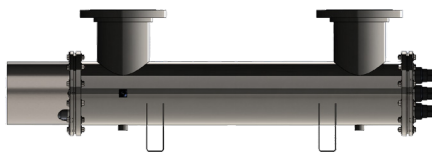

Figure 5a: Preferred installation orientation
Step 3: The reactor can be installed either horizontally or vertically, however horizontal installation is the preferred method (**Figure 5a**) with the inlet at the bottom as it allows any air that may be in the lines to be easily purged from the UV system.